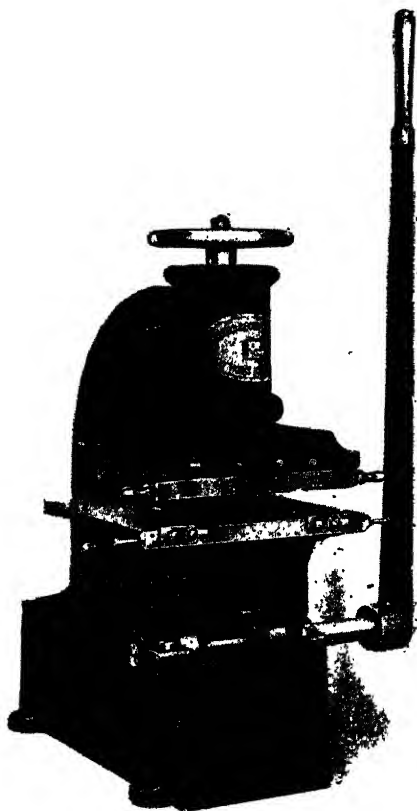

FIG. 48. "HARRILD" BLOCKING PRESS, NO. 6.
*Blocking Presses.* There are many makes and sizes of blocking presses for both power and hand operation, the nature of the work and the length of the run being the deciding factors. The "Harrild" Blocking Press No. 6 (Fig. 48) is a hand lever press particularly suitable for miscellaneous work. Because it has open sides, larger jobs can be blocked on the corners and edges than are possible on many other small machines.